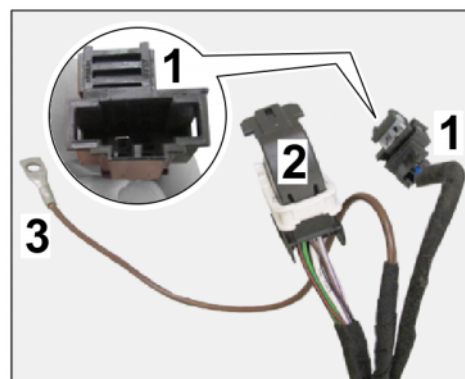

Figure 14
- 2.7.1 Connect plug connection (2-pin ⇒ *Figure 14*) for brake booster preparation in the luggage compartment area at the left.